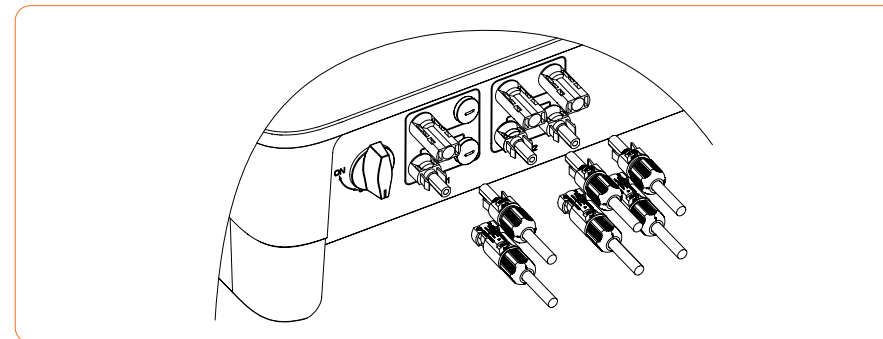

Figure 4-14
- ① Before assembling the DC connector, make sure that the cable polarity is correct.
- ② Use a multimeter to measure the voltage of the DC input string, verify the polarity of the DC input cable, and ensure that each string voltage is within 600V.
- ③ Do not connect inverter with functionally earthed PV Arrays.
3. Insert the positive and negative connectors into the inverter DC input terminals respectively, and a "click" sound represents the assembly in place, as shown in Figure 4-14: